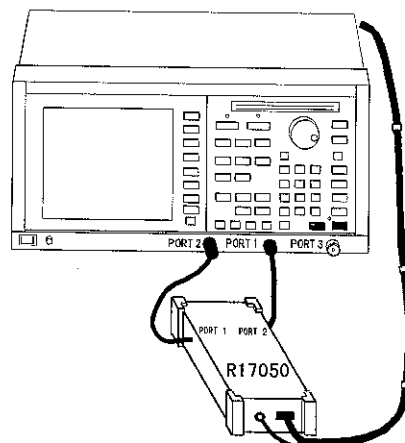

Figure 2-11 RF Port Connection
3. Connect cables between the RF ports of the instrument and PORT 1 and PORT 2 of the network analyzer (see Figure 2-11), using the cable that is actually used to measure the DUT. The RF port of the instrument has no directivity. Feel free to select port combinations.